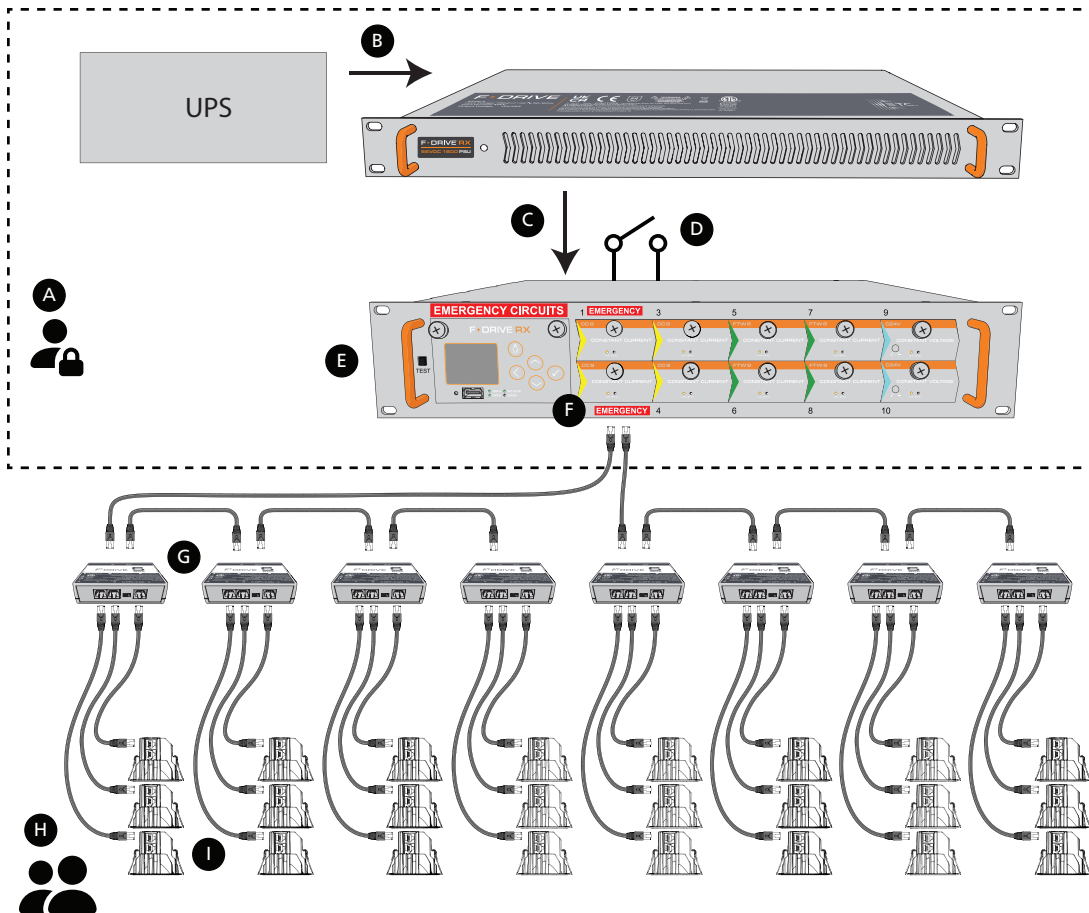

Figure 2. F-Drive RX in an emergency system. See Table 2 below for item descriptions.
Table 2. Descriptions of the labeled items in Figure 2
- An upstream double-conversion uninterruptible power supply (UPS) (Figure 2, B on page 16).
- F-Drive RX Power Supply (Figure 2, C on page 16).
- FD-RX-PSU-MW-FRAME four-bay frame and FD-RX-PSU-MW-56/3200 power supply modules (not shown in Figure 2). Each four-bay frame houses up to four power supply modules to power up to four F-Drive RX drivers.
- A device to provide a maintained, wet or dry, normally-open or normally-closed contact closure input to the F-Drive RX emergency input (Figure 2, D on page 16).
- One or more F-Drive RX enclosures (Figure 2, E on page 16).
- At least one F-Drive RX output card for each F-Drive RX enclosure. A CC 8 Card is shown as an example in Figure 2, F on page 16.
- Directly controlled luminaires (DCLs) for all output cards containing emergency circuits (see Compatible ETC Luminaires on page 10). Figure 2, I on page 16 shows 24 Navis 50 luminaires connected to a single CC 8 Card through eight FD-SBOX-R (Figure 2, G on page 16).
- B-Boxes (optional, not shown in Figure 2):
- S-Boxes (optional, shown in Figure 2):
- F-Drive safety kit (not shown in Figure 2): required for use with FD-RX-PSU-MW-FRAME four-bay frames. See Safety Kits on page 54.